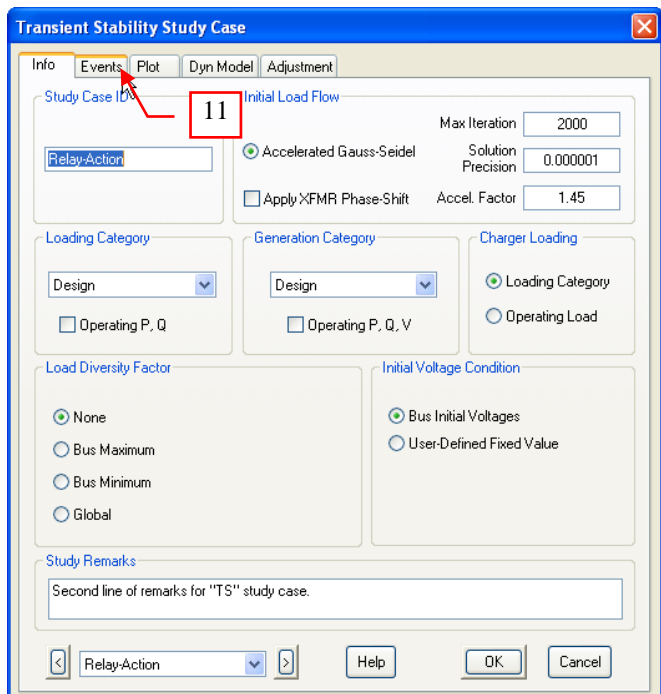

Fig. 6
11. The “Transient Stability Study Case” dialog box will be displayed as shown in Fig. 6. Click the “Events” Tab.